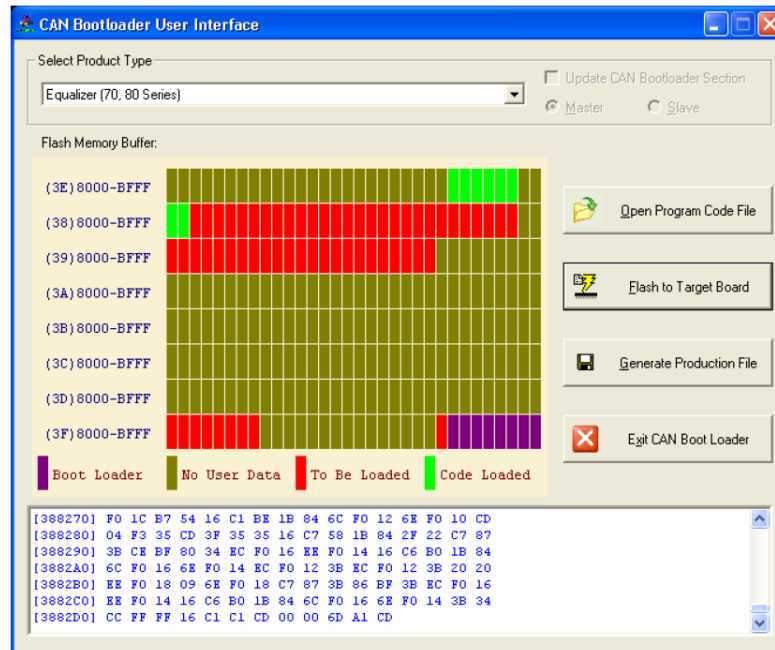

Figure 8: CAN Bootloader User Interface – Flashing in progress
8. Click “Flash to Target Board” button to start flashing new firmware to equalizer. Blocks flashed successfully will change from red to green. Refer to Figure 8.
10. Close CAN bootloader and switch to Equalizer Dashboard to verify heartbeat. Click “Diagnostic Messages ...” button on Equalizer Dashboard to bring up the Diagnostic window (Figure 8). Click “Request Software ID” button to verify correct software ID.